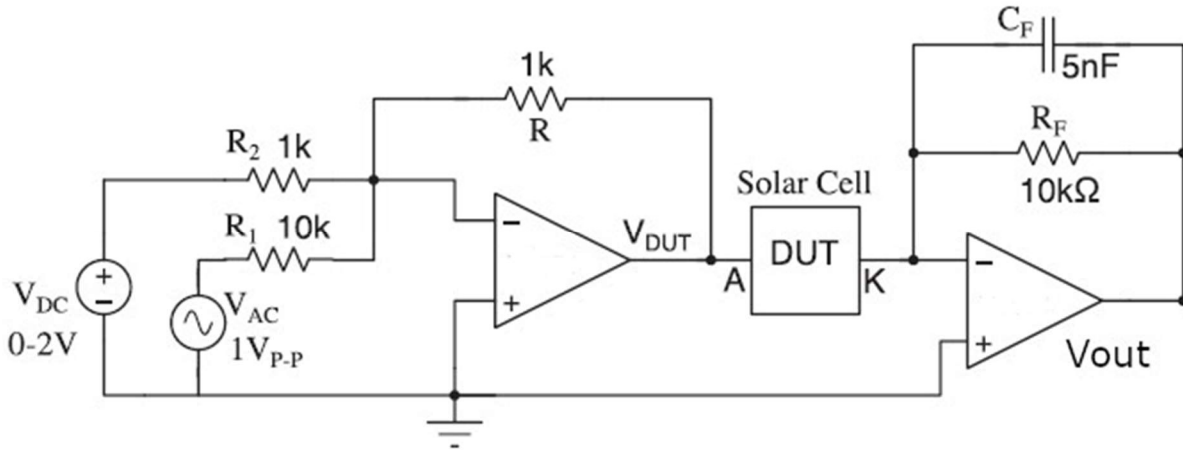

Fig.1 Circuit for CV data, where A is anode and K is cathode of solar cell(DUT)
The capacitance of the solar cell (Device under test, DUT) depends strongly on the applied DC voltage. Since the experiment involves measurement of the C-V profile of the capacitor, the circuit must also be designed to apply an additional DC voltage across the capacitor (solar cell) that can be varied, while measuring the AC current to extract the capacitance. In our setup, we apply a variable DC bias and a small AC signal (small enough not to perturb DC bias and not affect the charge polarization due to the DC bias) to the DUT. This is accomplished by using a basic inverting summing amplifier that adds the variable DC voltage (with unity gain  $R/R_2$ ) and the small signal AC voltage (with attenuation factor  $1/10 = R/R_1$ ), the output voltage of which is then connected to the DUT. The voltage  $V_{DUT}$  in Fig. 1 is thus given by the following equation:
1. 741 opamps are used to realize the circuit in Fig.1.
2. Check for the datasheet of 741 opamp on internet or advanced electronics lab manual, connect the power supply, make either non inverting configuration or inverting configuration as done in LABI(A) of advanced electronics lab and check both the given 741 opamps are working.
3. After confirming that 741 opamps are functioning, make the complete circuit as shown in Fig.1. on breadboard.